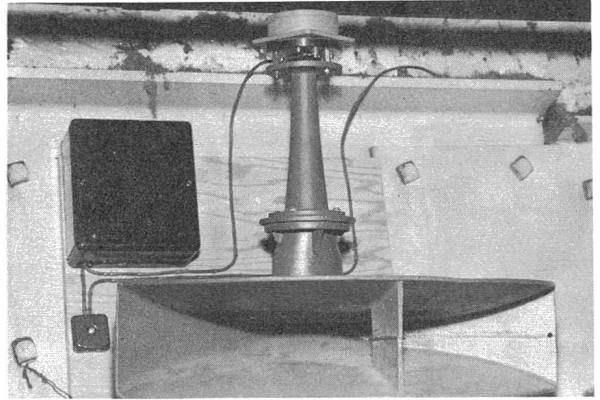

Figure 55 - Western Electric KS14705, KS14707 and KS14704 assembled
3.73 The KS-14705 horn is an 8-ohm, 30-watt loudspeaker with a dispersion angle of 120° . This loudspeaker is composed of three parts as shown in Figure 55. The lower fan-shaped part of the speaker is called the KS-14705 horn. The thin neck on top of this section is called the KS-14707 receiver attachment. The driving unit which mounts on the top of the thin neck is called the KS-14704 receiver. The line matching transformer is mounted on the adjacent GB-3613 bracket. The line matching transformer may also be mounted in the 790053GB, pole box. It is suitable for indoor or outdoor use, and completely assembled, this unit weighs 15 pounds.